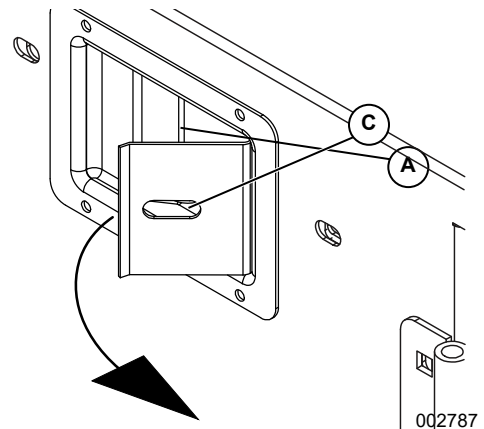

Figure 2-11. Hood latch (left side of hood)
5. See Figure 2-11. Pull hood latch (C) on left hood side and tilt hood completely open.